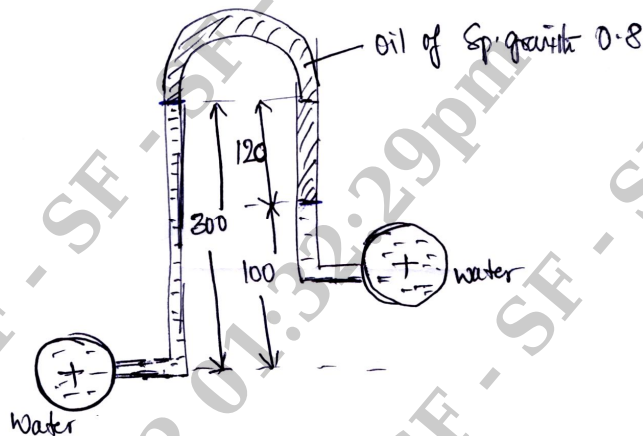

Fig.Q1(c)
- c. In the system shown in Fig.Q1(c), if the pressure head in the pipe A is 2m of water. Find the pressure head and intensity in pipe B.